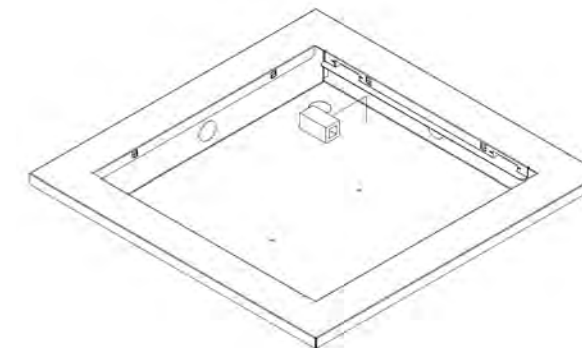

Figure 3
**NOTE:** A surface mount box (or biscuit jack) and equipment cord can be conveniently mounted inside the enclosure. (Non-plenum rated cables can be used inside a plenum rated enclosure). Use an adhesive backed surface mount box. Consider bend radius of data cable and equipment cord when attaching the surface mount box (Ref. Figure 3)